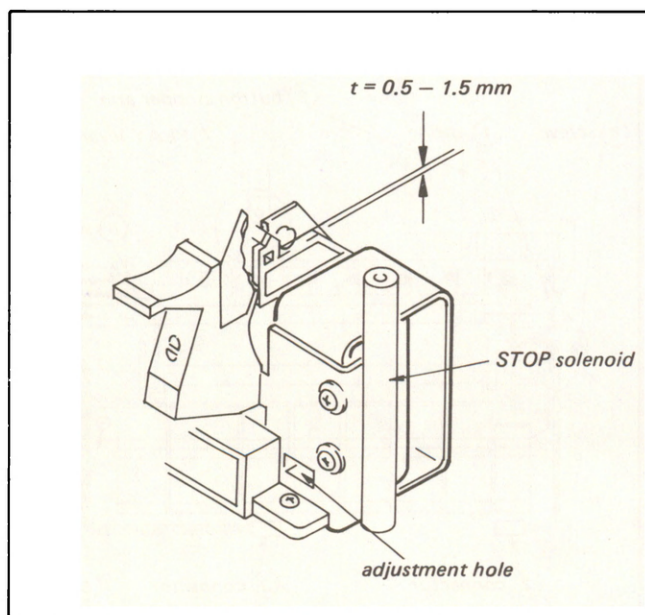

Fig. 3-34.
4. Keep pressing the button even if the stop solenoid is energized (it is all right to remove the screwdriver from the area) and check that clearance t shown in Fig. 3-34 is 0.5 mm to 1.5 mm.
7. Perform Section 3-12-1 and energize the solenoid. Insert the standard blade-tip screwdriver into the adjustment hole and push up the solenoid gradually until clearance shown in Fig. 3-34 becomes 0.5 mm to 1.5 mm. Confirm that the stop solenoid operates securely in all the modes.